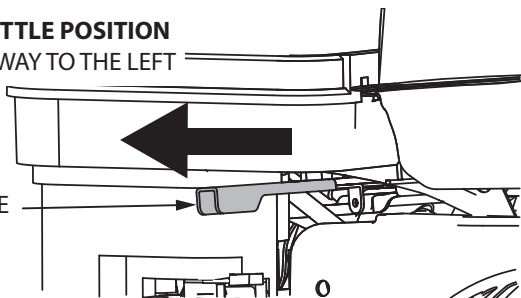

FIGURE 3
SEE FIGURES 3 AND 4
10. Move throttle lever to desired speed. *(This is not necessary on models with throttle fixed at full throttle position.)* **SEE FIGURE 3**